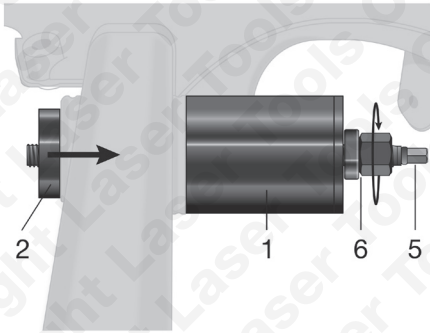

Fig 2
1. Assemble puller tool as indicated in **Figure 2**.
2. **Important:** Lubricate the force screw (5) and force nut/thrust bearing (6) with black molybdenum disulphide grease.